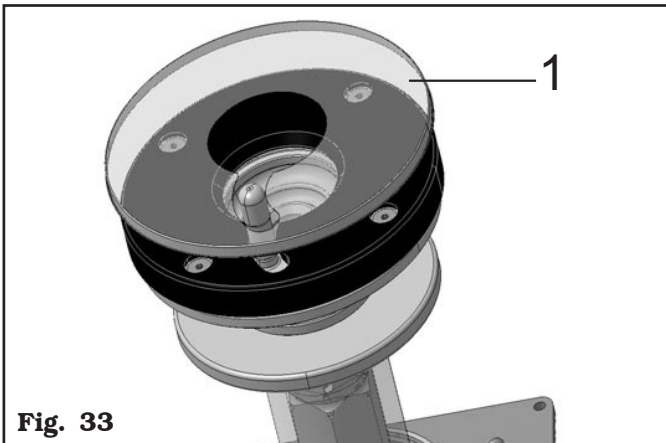

Fig. 33
In case of use of reverse wheels, to protect the rim, apply on the rubber platform a protection made of a transparent plastic material available on demand (**Fig. 33 ref. 1**). We suggest a constant replacement of it and in any case if there are visible damages (see **Fig. 33**).